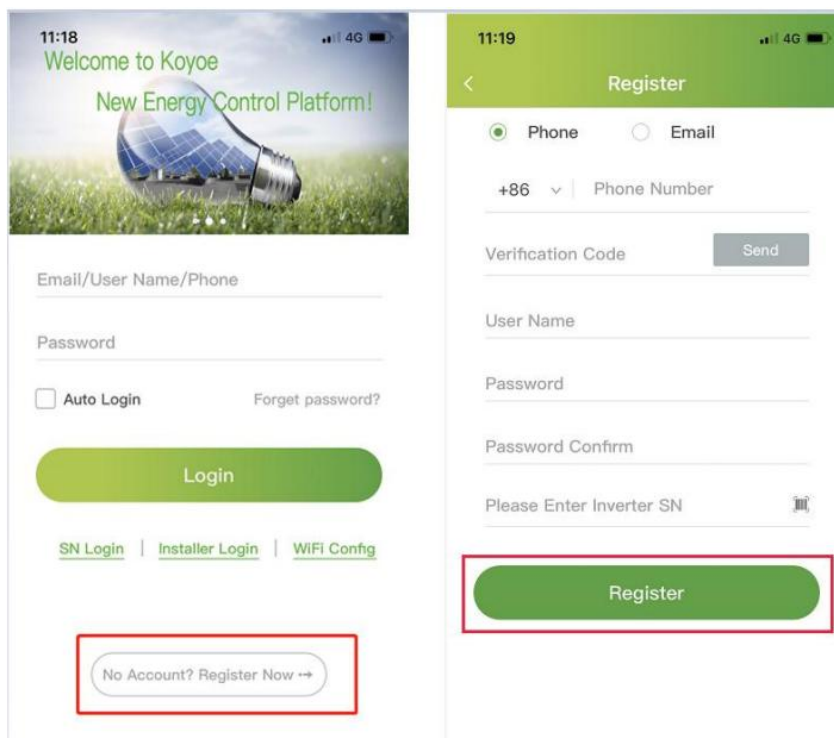

Figure 11-4
3). In apple and android app stores, enter the KOYOE-log keyword, and users can download apps to your mobile device. After installation and registering an account, The method is shown in Fig11-4.
4). Enter the user name and password to log in, and the user can monitor the voltage, current and power of the inverter. (GPRS module only needs to fill in the SN code in Figure 11-4, and then click Register to monitor the data without the previous steps)